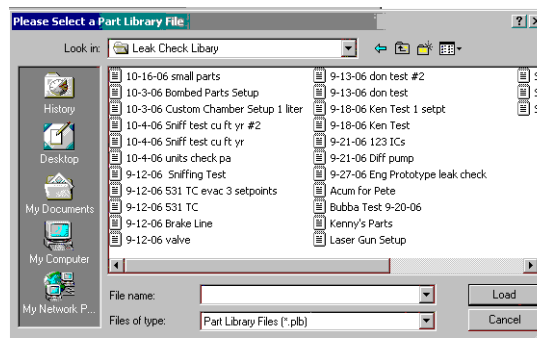

Figure 2-39 Save Dialog Box
3. Click **Load** and Figure 2-39 appears.